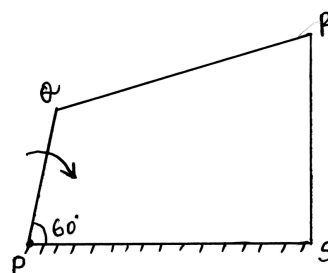

Fig Q6
- 6 PQRS is a four bar chain with link PS is fixed as shown in Fig Q6. The lengths of the links are PQ = 62.5mm QR = 175mm, RS = 112.5mm and PS = 200mm. The crank PQ rotates at 10 rad/s clockwise. Draw the velocity and acceleration diagram. When angle QPS =  $60^\circ$ , Q and R lie on the same side of PS. Find the angular velocity and angular acceleration of links QR and RS.